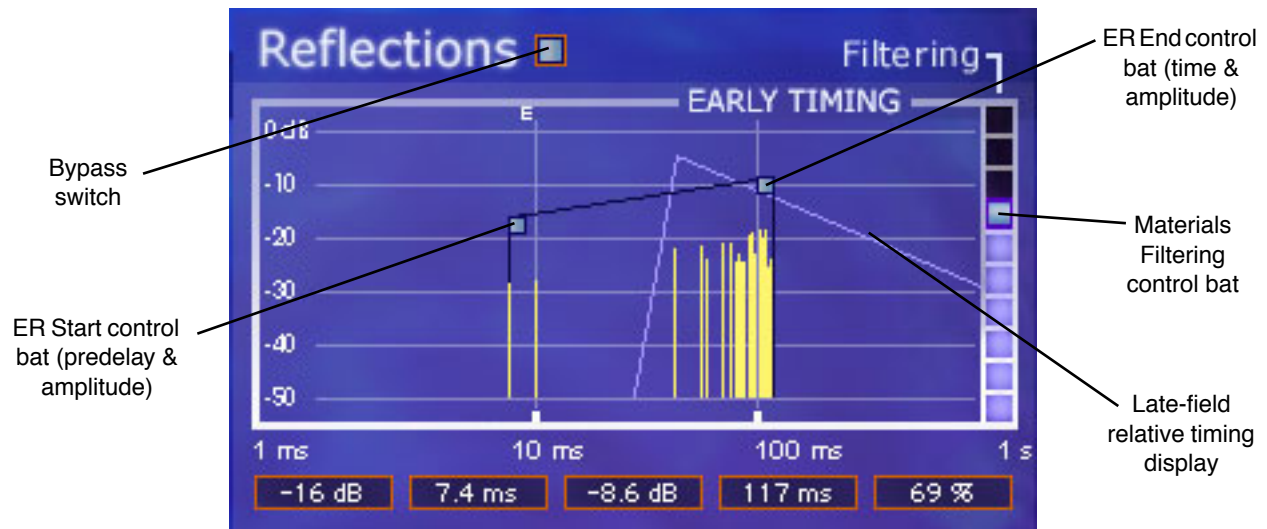

Figure 74. DreamVerb Reflections panel
The resulting early reflection pattern is displayed at the top of the Reflections panel (Figure 74 on page 156), where each reflection is represented by a yellow vertical line with a height indicating its arrival energy, and a location indicating its arrival time.
Note: The parameters in the Materials panel always effect the late-field reverberations. However, the materials parameters effect the early reflections ONLY if the “Filtering” parameter in the Reflections panel (Figure 74 on page 156) is set to a non-zero value.
The Reflections panel (Figure 74 on page 156) offers control over the timing and relative energies of the reverb early reflections (ER). These parameters effect the reverb's perceived clarity and intimacy. Each early reflection is visually represented by a yellow vertical line with a height indicating its arrival energy and a location indicating its arrival time.